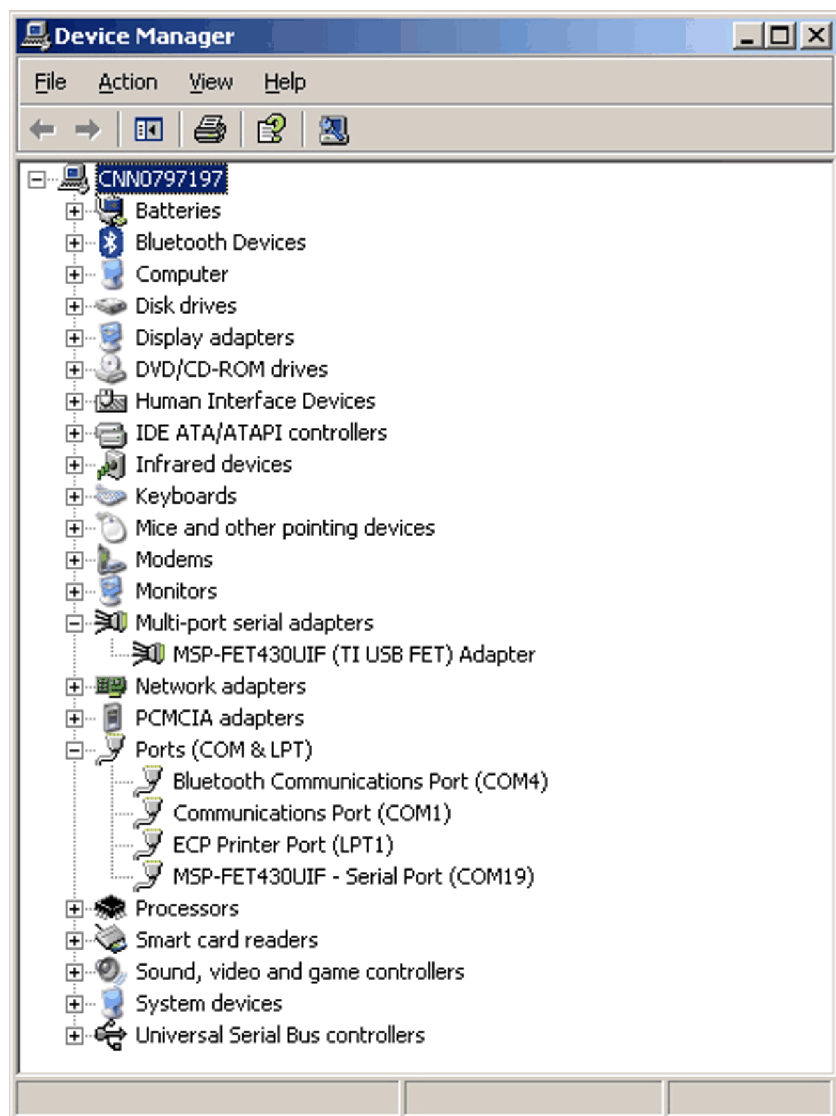
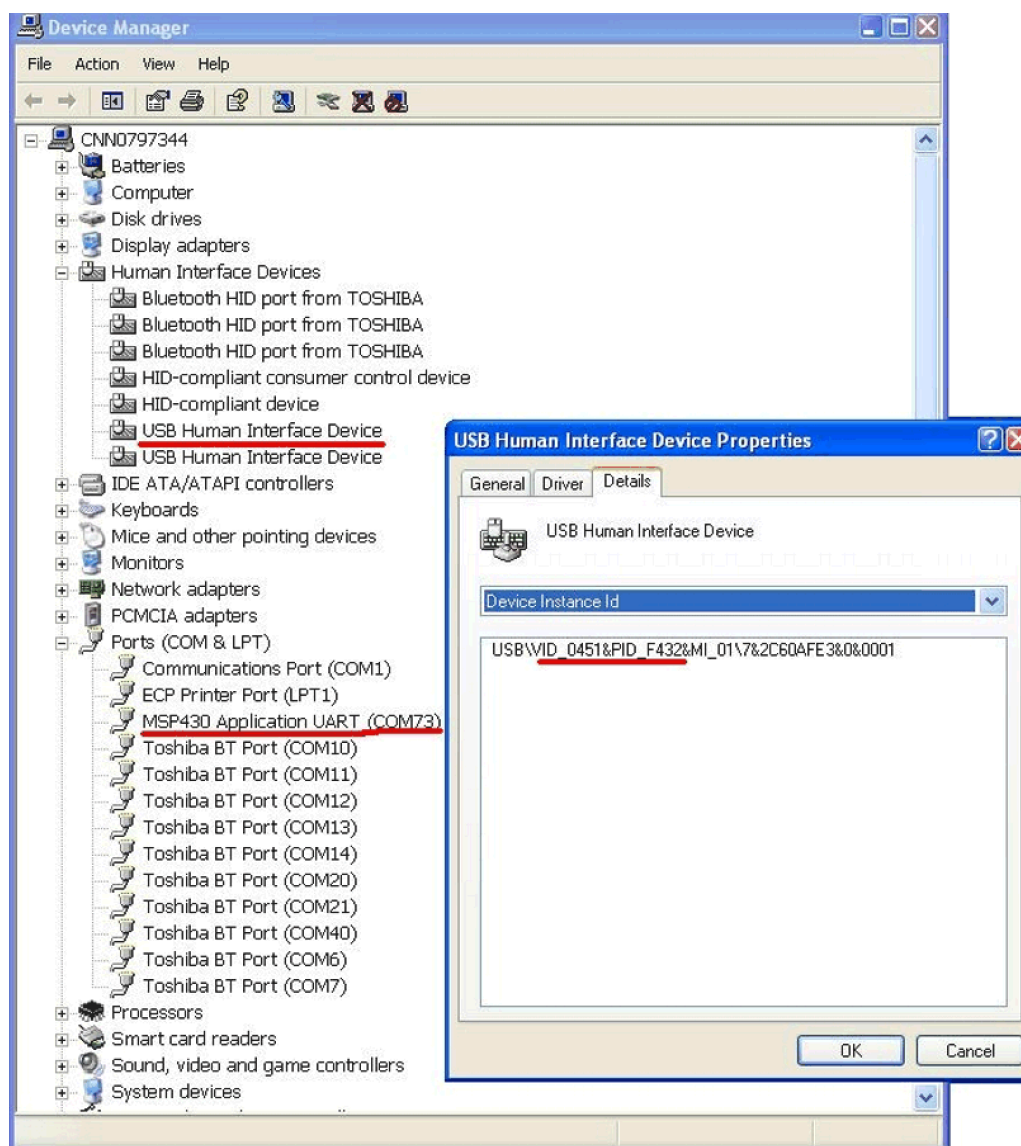

Figure E-5. Device Manager Using MSP-FET430UIF or MSP-eZ430-F2013
Figure E-6. Device Manager Using MSP-eZ430-RF2500
13. The USB debug interface is installed and ready to use. The Device Manager lists a new entry as shown in Figure E-5 or Figure E-6.